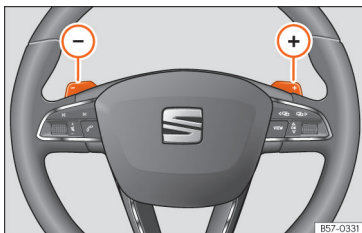

Fig. 222 Steering wheel: automatic gearbox levers
- Press the gearshift paddle  to select a higher gear **>>> Fig. 222**.